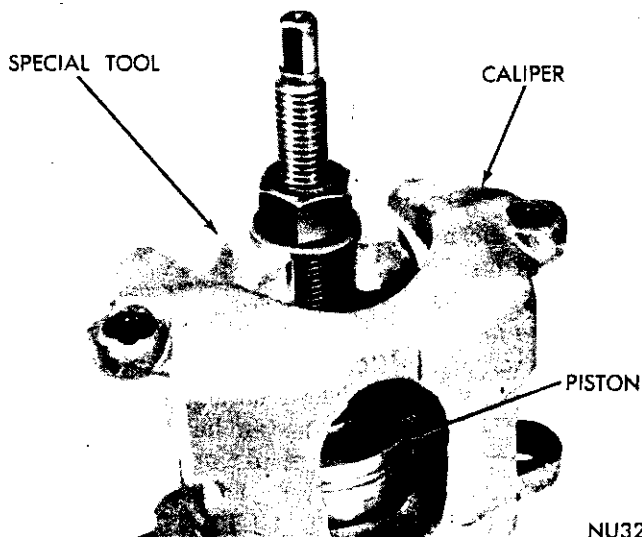

Fig. 10—Removing Piston from Caliper
(1) Mount caliper assembly in a vise equipped with protector jaws (Fig. 10). (**Caution: Excessive vise pressure will cause bore distortion and binding of piston.**)
(3) Using Tool C-4087, remove piston from caliper (Fig. 10). Care must be used so as not to scratch, burr or otherwise damage piston on outside diameter. To do so effects sealing qualities of piston. Draw piston straight out of its bore. If a piston becomes cocked removal is more difficult and piston or bore may be damaged. **CAUTION: UNDER NO CONDITION SHOULD AIR PRESSURE BE USED TO REMOVE PISTON FROM BORE. PERSONAL INJURY COULD RESULT FROM SUCH PRACTICE.**
(1) Clamp caliper in vise (with protector jaws), (Fig. 10). Caution: Excessive vise pressure will cause bore distortion and binding of piston.